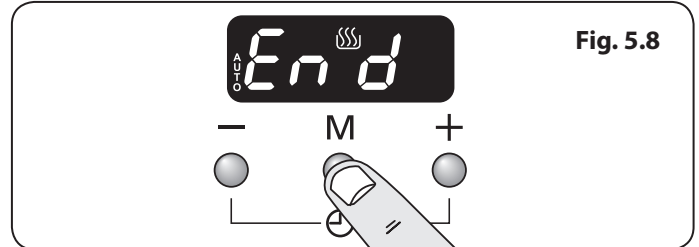
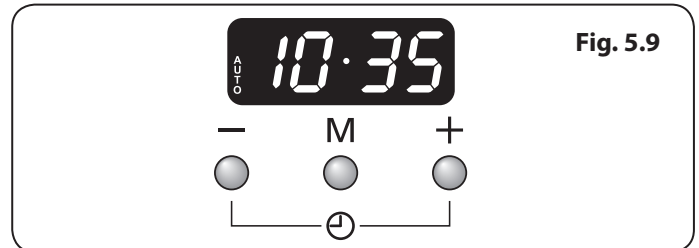

Fig. 5.8
Fig. 5.9
- Press the mode [M] button until the display flashes 'End' (**Fig. 5.8**). Then set the 'stop time' using the [+] or [-] buttons. Current time will be displayed along with the word 'AUTO' (**Fig. 5.9**).